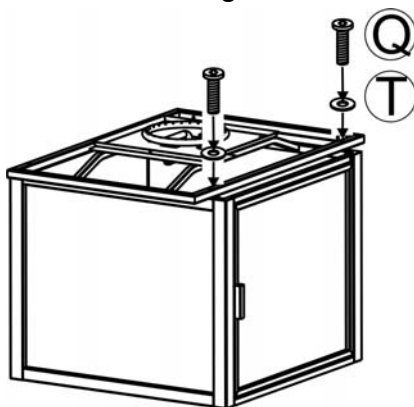
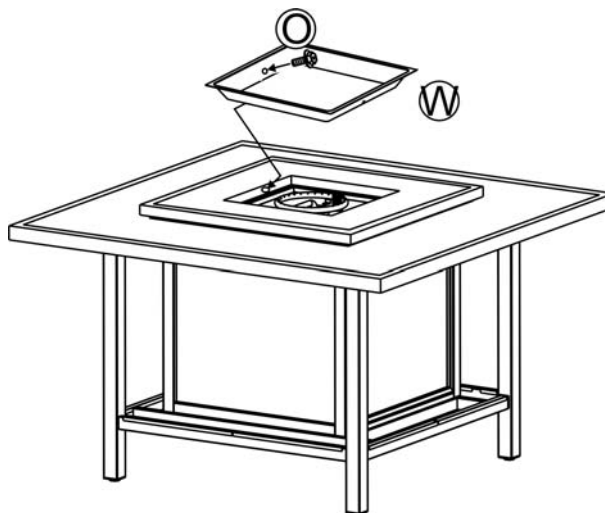

Figure 3
Figure 7
2. Attach the top connector bracket to the firepit base frame by using four 1/4"x40mm bolts and Ø6.5 X 1.0mm washers as shown in Figure 3. **Hand tighten only.**
7. Place the burner pan protective ring into the firepan/burner assembly as shown in Figure 3. Align the holes in the burner pan protective ring with the pre-drilled holes on the firepan/burner assembly. Secure the burner pan protective ring to the firepan/burner assembly by using the two M4 screws as shown in Figure 7.